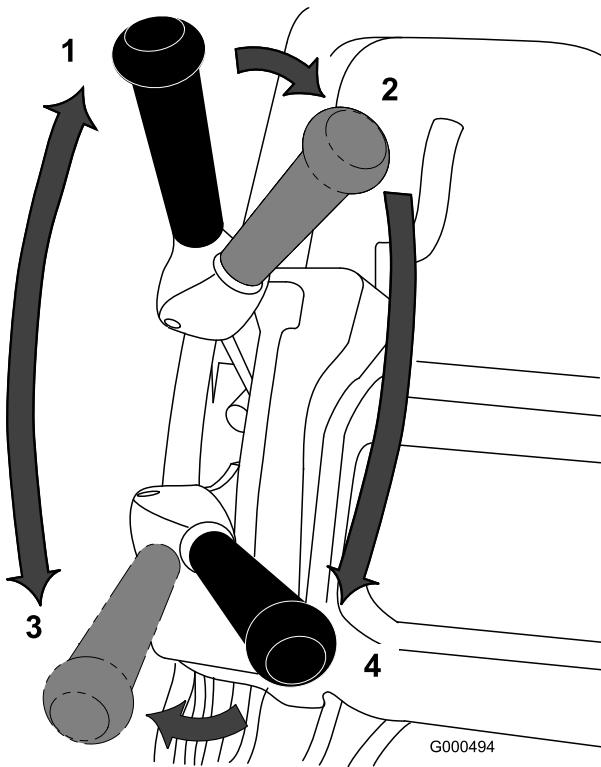

Figure 27
1. Start the engine, set the throttle to a reduced speed, push down on the handle to raise the cutting unit, depress the operator presence control, move the traction lever to the Engaged position and transport the mower onto the collar of the green (Figure 27).
2. Move the traction lever to the Disengaged position and Engage the reel drive lever (Figure 27).
- Move the traction lever to the Engaged position, increase the throttle speed until the mower is traveling at the desired ground speed, drive the mower out onto the green area, lower the front of the mower down and commence operation (Figure 27).